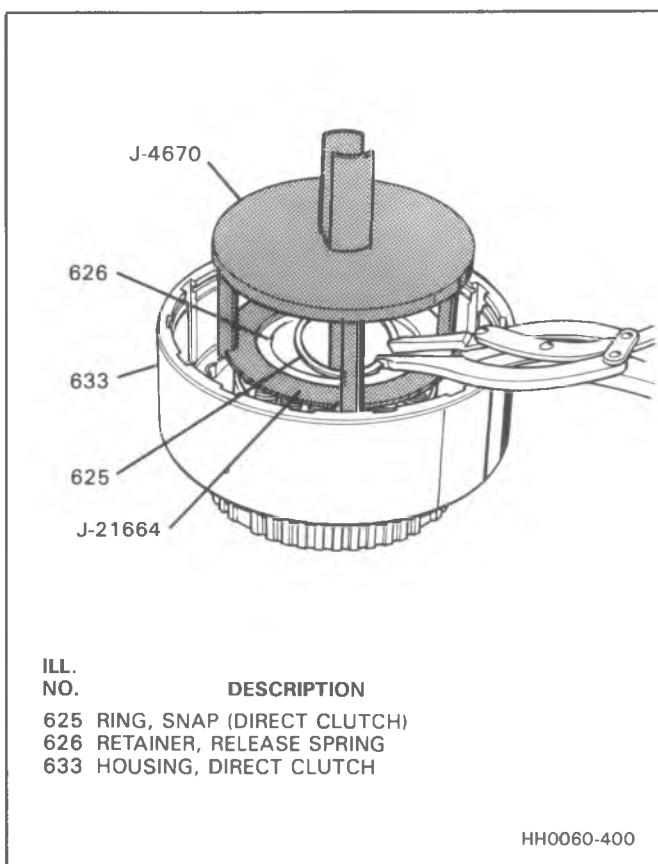

Figure 52 - Disassembly of Direct Clutch Housing
Direct Clutch and Intermediate Roller Assembly**Disassemble (Figures 52 and 53)****Tools Required:**
1. Snap ring (638) and clutch retainer (637).
2. Race (636) and roller assembly (634) (or sprag assembly 635).
3. Snap ring (619).
4. Direct clutch backing plate (620) and clutch plates (621 and 622).
5. Snap ring (625) with J-4670 and J-21664.
6. Retainer (626) and clutch release springs (627).
7. Apply ring (628) and piston (629).
8. Inner seal (630) and outer seal (631) from piston (629).
9. Center piston seal (632) from housing (633).
**Inspect (Figure 52)**
- Roller assembly (634) for damaged rollers, cage or distorted springs.
- Clutch housing (633) for cracks, wear and proper opening of oil passages.
- Backing plate (620) and piston (629) for damage or cracks.
- Clutch springs (627) for collapsed coils or distortion.